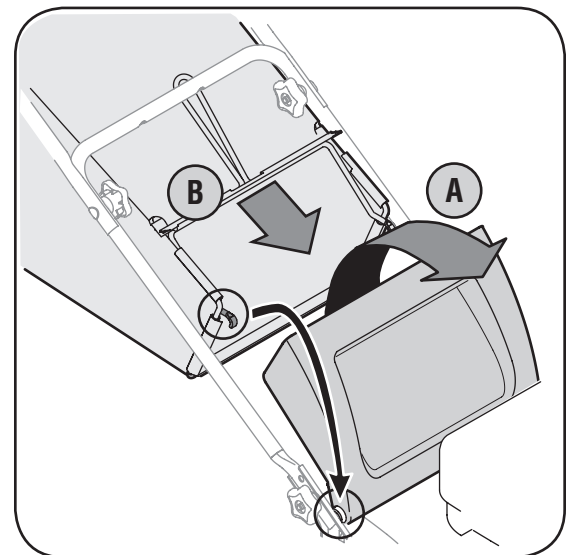

Figure 3-4: Lift discharge door and place grass catcher on rod.
7. To install the grass catcher, Figure 3-4.